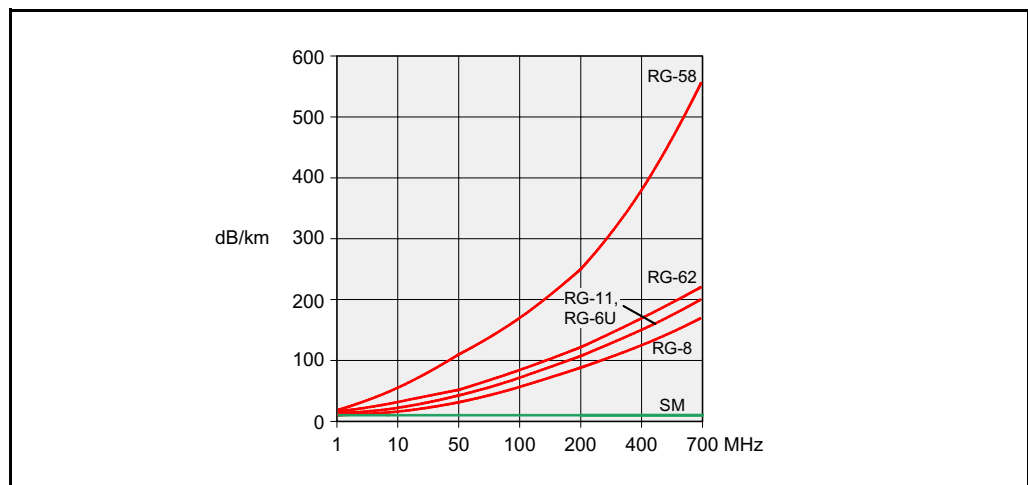

Figure 7-9. Attenuation for copper coaxial cables and fiber cable
Figure 7-9 shows the attenuation for RG-58, RG-62, RG-11, RG-8, RG-6U and single-mode fiber (SM).